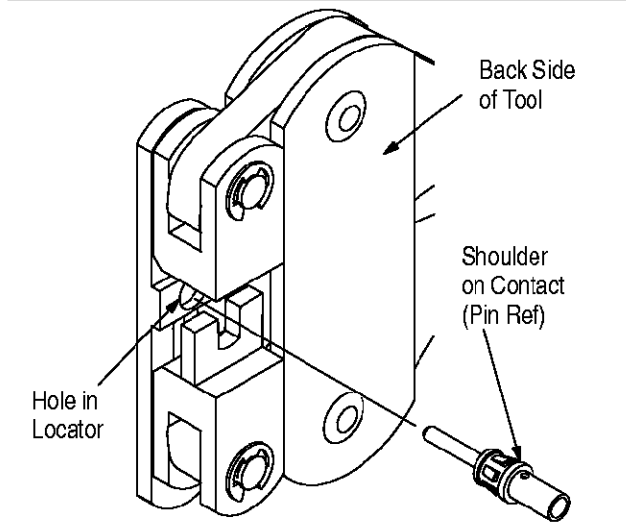

Figure 3
3. Insert the contact through the hole in the locator until the shoulder on the contact butts against the locator. See Figure 3.